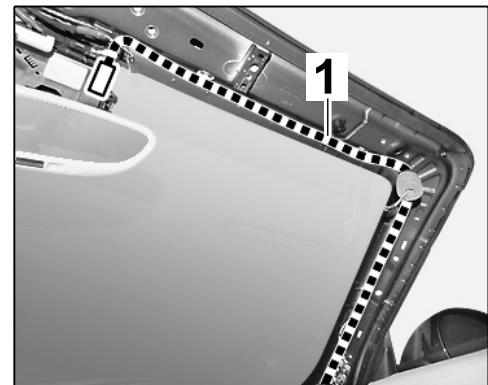

Figure 5
2.3.1 Route GPS antenna line \Rightarrow Figure 5 -1- along the standard wire harness for the sun visor and A-pillar.